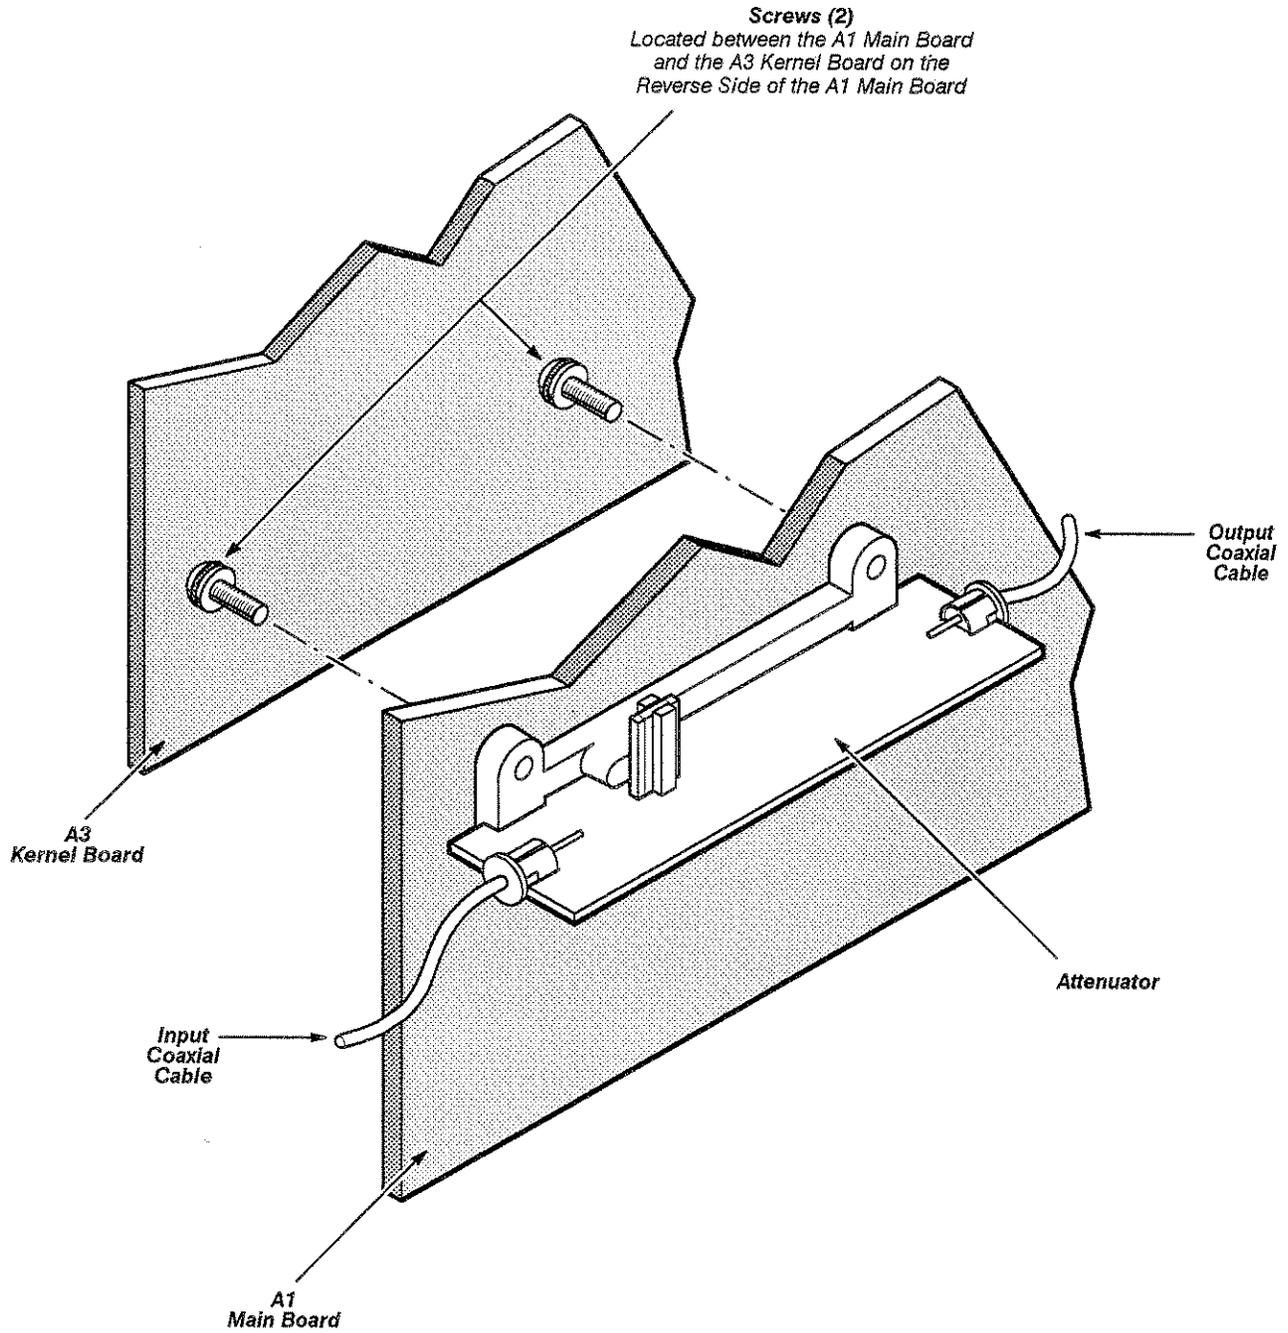

Figure 3-5 — Location of Screws and Parts for Removal of an Attenuator
- Step 3: Use a Torx T-10 screwdriver to remove the two screws that fasten the Attenuator to the A1 Main board (refer to Fig. 3-5).
- Step 5: Plug the coaxial connectors into the input and output of the Attenuator (refer to Fig. 3-5). Care is necessary when engaging these connectors. For best results, proceed as follows: